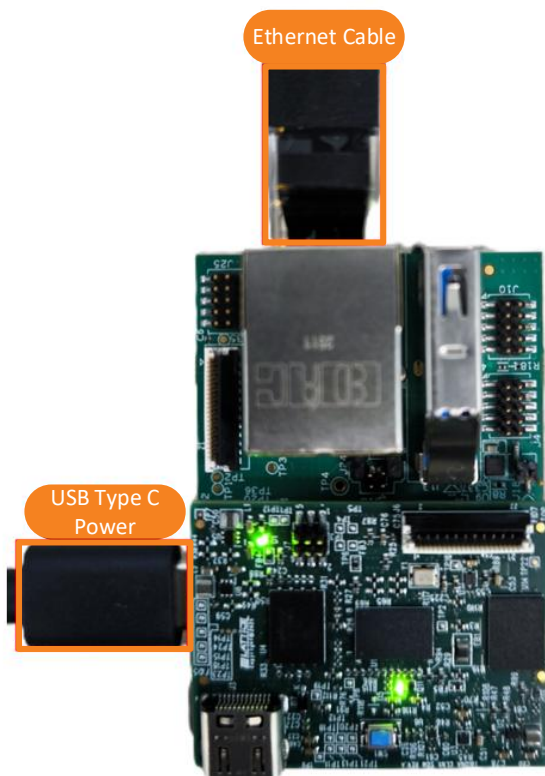

Figure 5.18. CrossLinkU-NX SoM with Ethernet Connection
- Connect the CrossLinkU-NX SoM kit's LAN connection (as shown in Figure 5.18) to either the host PC or a router with DHCP enabled.